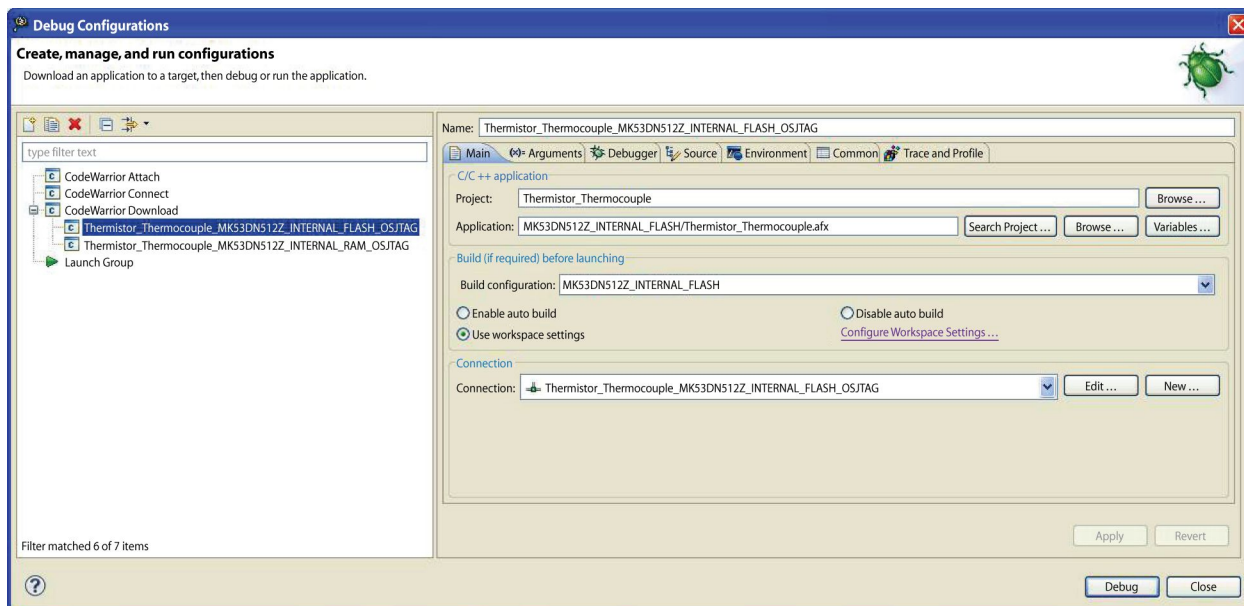

Figure 16. Debug configurations
- The same procedure applies for “Debug Configurations” by clicking on the small triangle next to the bug icon. The debug configuration may be selected on the window as shown in Figure 16.